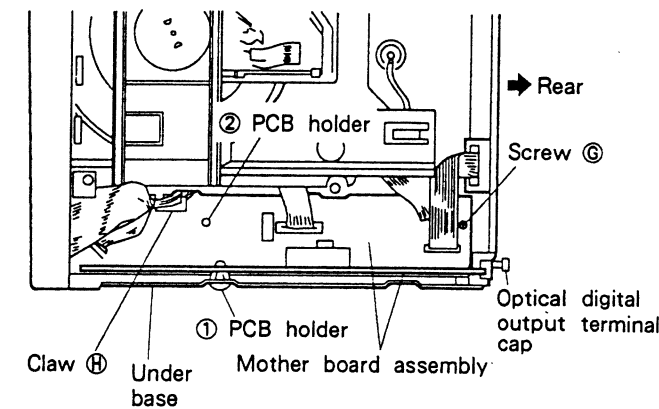

Fig. 2 - 3.
- ① Remove the float base. (See 2.3.)
- ② Remove the gear pulley and driving gear.
- ③ After rotating the clamp cam fully in the counter clockwise direction, pull it up.
- ① Remove the tray. (See 2.1.)
- ② Remove the operation panel and rear base. When removing the operation panel, remove the flat cable for the transformer board and the mother board assembly. Moreover, when removing the rear base, remove the cap of the optical digital output terminal.
- ③ Remove screw (C) holding the mother board assembly.
- ④ Remove the bundle of wires of the mother board assembly from claw (H) of the loading base.
- ⑤ After removing the board from the PCB holder in the order of ① and ② shown in Fig. 2 - 3, pull it out.